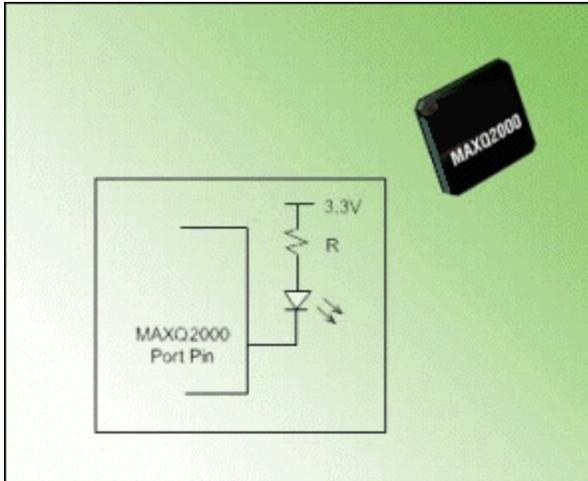

Figure 1. LED circuit that interfaces to the MAXQ2000 microcontroller.
**Figure 1** shows a LED circuit commonly used with a microcontroller, the MAXQ2000. In this case, the resistor, R, must be sized to limit the current through the LED to 4mA. To calculate R's value, assume that the LED drop is typically 2.0V (confirm this by checking the LED data sheet) when turned on. The MAXQ2000's low output voltage is specified to be a maximum of 0.4V. Therefore, the voltage at the base of the resistor is 0.4V + 2.0V, or 2.4V. Using Ohm's law: